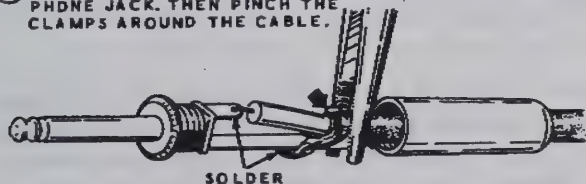

Figure 4
**Phones or Ext Spkr -** For using an external speaker or headphones. A phone plug is provided for use with your speaker or headphone leads (see Figure 4).
- ① PREPARE THE END OF THE CABLE AS SHOWN. THE OTHER END OF THE CABLE GOES TO THE EXTREME EXTERNAL SPEAKER.
- ② SOLDER THE SHIELD LEAD AND THE CENTER LEAD TO THE PHONE JACK. THEN PINCH THE CLAMPS AROUND THE CABLE.